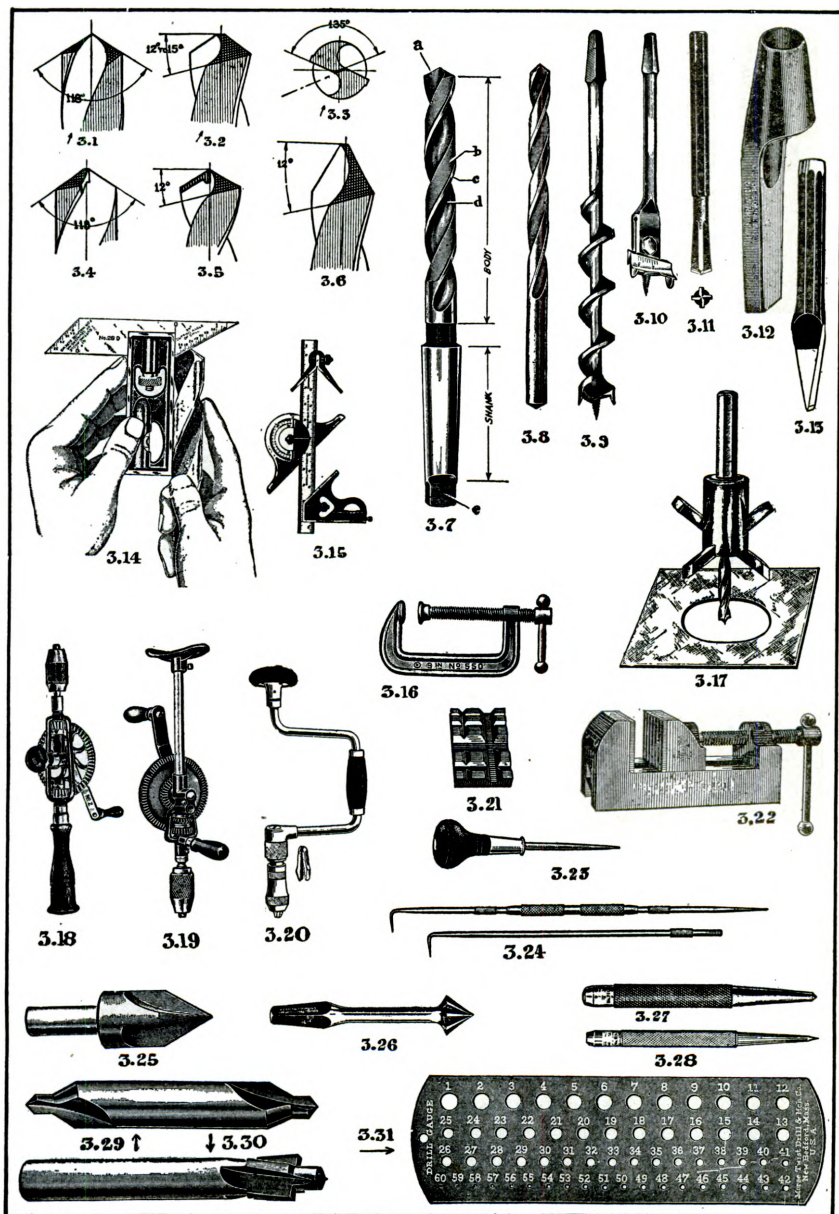

FIGURE 18.
The most generally used drill for boring small holes in metal is the straight-shank "twist drill" shown in 3.8, figure 18. Ordinarily these drills are made of a high-carbon steel of excellent quality, and are suitable for most all classes of work if used properly and never allowed to become heated. Drills made of a special alloy containing tungsten, chromium, and especially cobalt, are referred to as "high-speed" drills, which cost several times as much as ordinary carbon drills, but which may be operated at quite high temperatures and still retain their hardness. High-speed drills are preferred when large numbers of holes are to be drilled in bakelite or other plastics, especially when the drill must be driven by a small portable electric drill that operates at very high speed. This is because the plastics are very poor conductors of heat, and any heat produced while drilling will accumulate in the drill instead of being conducted off through the work. Monel metal, stainless steel, and other extremely tough materials produce so much heat when drilled that the use of high-speed drills is imperative.
3.31, figure 18, illustrates a gage for determining the gage numbers of wire twist drills, and is used by trying the *shank* end of the drill into various holes until one is found which just fits. The gage gives both the gage number and the diameter in decimal parts of an inch. Drill points should never be inserted into the holes of the gage as this will ruin both drill and gage.
The entire cone-shaped region at the cutting end of a drill is referred to as the point. The sharp edge at the extreme tip is called the "dead center," or just "center," and is the part that does the first cutting, thereby determining to a great extent how fast the drill will penetrate. The angle of the center is quite important, and should be about 118° , or 59° each side of the center line through the drill, as shown in 3.1, figure 18, for all general uses. For cutting very hard metals, like armor plate or forgings, the angle should be greater, say about 150° , and the drill subjected to more pressure. Similarly, a drill for soft metals, plastics, or wood, may have a very small angle (see 3.6, fig. 18) so that it will cut rapidly without requiring much pressure.
After the center of the drill penetrates, the cutting is done by the "lips" of the drill point (see "a," 3.7, fig. 18). The faces of the lips present an angle to the work which is determined by the amount of twist in the drill, or in the manner in which it is ground. Figure 18, illustrations 3.4 and 3.5, shows a special purpose drill sharpened especially for use in brass, and which has the lip faces ground so as to present a 90° angle with the metal being cut. Regardless of whether or not the leading edges of the lips have been altered by special grinding, the cutting edge must have relief, or "clearance," behind it in order that it can dig in and cut the metal. This "lip clearance" angle is practically always about 12° as can be seen in 3.2, 3.5, and 3.6, figure 18. This angle will also affect the angle that the center makes with the leading edge of the lips, which should be 135° as shown in 3.3, figure 18. The back edge of the point, that is, the noncutting part, is called the heel. Shortening the heel is what creates the lip clearance and alters the angle between the dead center and lips.
The body of a drill has a spiral groove or "flute" cut in each side as shown at "d" in 3.7, figure 18. In the straight-shank drill, the length of the body is considered as the length of the flutes. The flutes are cut quite deeply and remove all but a thin section of metal down the center of the drill, which is referred to as the "web," and determines the length of the cutting edge of the dead center, as shown in 3.3, figure 18. The raised leading edge of the body of the drill (see "c," 3.7, fig. 18) is the "margin," and is very accurately ground to size. The remainder of the surface of the body recedes from the margin to form the "body clearance" as can be seen at "b" in 3.7, figure 18, and as an end view in 3.3, figure 18.
Small drills for general use almost invariably have straight shanks as shown in 3.8, figure 18, the shank being exactly the same diameter as the "margin" of the body of the drill. Straight shanks are to be used only in drill chucks of the three-jaw type, which are made especially for this purpose, and are found on hand drills (see 3.18, fig. 18), portable electric drills, and most small drill presses. Every effort should be made to preserve the smoothly machined surface of drill shanks, and chucks must be tightened very carefully to prevent slippage which results in damaged shanks. Good quality electric drills and small drill presses nearly always use a three-jaw chuck which has a key for tightening, the most popular (and by far the best available) being known as the "Jacob's" chuck. Straight-shank drills will last indefinitely when used with such a chuck providing it is always tightened sufficiently to prevent the drill from being scored by slipping. Breast drills (see 3.19, fig. 18) sometimes have three-jaw chucks, but this is not the general rule. They usually have a two-jaw, so-called "universal" chuck which will instantly ruin a straight-shank drill, and is suitable only for drills having a square shank of some sort to prevent slipping.
The best possible method of driving twist drills larger than $\frac{1}{4}$ inch is by means of the "Morse taper" shank, shown at 3.7, figure 18. The tapered shank slips into a very accurately ground socket instead of the customary chuck, the taper holding the drill in exact alignment. The drill is prevented from slipping by a "tang" (see "e" at 3.7, fig. 18) which extends beyond the end of the taper. Drills with tapered shanks should *never* be used in a breast drill, bit brace, or any type of drive other than a Morse socket, and every effort should be made to keep both socket and taper smooth, clean, and free of particles of metal, etc. There are several sizes of Morse tapers to suit varying needs, and are designated by numbers. For example, drills from $\frac{1}{4}$ to $\frac{1}{2}$ inch
Both wire and jobber's twist drills are also available in several other types of shanks, although they are not standard in the Navy, and are not used ashore except for special purposes. Common types are "bit-stock" shanks like those furnished on a carpenter's auger bit (see 3.9, fig. 18) and are to be driven by a breast drill with the "universal" chuck, or a carpenter's bit brace (see 3.20, fig. 18). There is another series having straight shanks with a flat ground on one side so that they may be used in the two-jaw universal chuck, or in a common spindle using a set-screw to hold the drill from twisting.
The lip angle is practically always ground to 59° where drills are to be used for all general purposes, but the exact value of this angle is of minor importance. It is extremely important, however, that both lips have exactly the *same* angle, whatever that be, and that the lips are both of exactly the same length. This is to insure that both lips cut uniformly, and that all the work is not done by only one of the lips. Furthermore, if both lips are of exactly the same angle and length, the dead center will actually be in the center of the drill, thereby avoiding the drilling of oversized holes. 3.1, 3.2, and 3.3, figure 18, illustrate perfectly ground drill points for average work, and 3.14, figure 18, illustrates the use of a drill gage for checking the angle and length of lips while grinding. The drill will not cut unless sufficient lip clearance is provided (see 3.2, 3.5, and 3.6, fig. 18) to allow the cutting edge to cut into the metal, as otherwise the drill will slip over the work causing great friction resulting in burning the drill point. It is quite difficult to grind this clearance properly and still maintain the proper proportions of length and angle of the lips. A good check is to note that the angle between the point and the lips (see 3.3, fig. 18) will be 90° if there is no lip clearance, but this angle will increase to 135° when the lip clearance angle is increased to 12° .
Wheels for grinding drills should have a medium grit, preferably be of fairly large diameter, and must be dressed to run perfectly smooth and true. The drill should be grasped as near to the point as possible with the right hand, and by the end of the shank with the left hand, and should be held lightly against the wheel. Some prefer to grind drills on the side of the stone, and others on the face, although there is very little difference in the results except when the diameter of the wheel is less than about 8 inches it is easier to use the side of the wheel. Grinding should start with the cutting edge of one lip, at a 59° angle with the stone, and while twisting the drill slowly clockwise this angle should be decreased to about 50°, thus forming the lip clearance. Don't wait for the drill to become blue or your fingers to get burned with the heat before cooling the drill in water! The water should be provided first, and the drill should be rapidly agitated in the water every second or so while grinding. A drill can be burned very easily on the wheel before realizing it because the steel is such a poor conductor of heat that the point might easily be ruined before the remainder of the drill becomes too hot to handle. Each time the drill is cooled in water it should be inspected and compared with the drill grinding gage (3.14, fig. 18). In grinding drills of $\frac{1}{4}$ inch and smaller, the drill grinding gage is not of much value, the unaided eye
A "Wycor" hole cutter is shown in 3.17, figure 18, and is typical of several devices on the market for cutting large holes in thin metal, such as holes required for mounting meters in radio panels, etc. They may have either one or two blades, and are variously known as "panel cutters," "washer cutters," and sometimes as a "sweep." They have a "pilot drill" which enters first and serves as a pivot for the sweep. They must be run at very low speeds, and are extremely difficult to use except in a drill press. Another similar device is a cup-shaped saw arrangement also having a pilot drill in the center. These "hole saws," as they are called, are somewhat better for thin metal than the sweep. In very thin metal, and for substances like rubber, fibre, gasket material, canvas, etc., the hollow punch (see 3.12, figure 18) may be used. The material to be punched is best placed on a wooden block which is made so that the grain in the wood will be vertical, the force of the punch then being taken up by the end-grain of the wood. If the hole is quite large, or of irregular shape, it is best cut out by means of a cold-chisel of the "cape" pattern as shown at 3.13, figure 18.
Figure 18, 3.25, illustrates a countersink for reaming the cone-shaped recess to accommodate the heads of flat-head screws. This particular pattern is made especially for cutting metal, and may be used in a hand drill or drill press, although it must be turned quite slowly to avoid burning. When selecting a countersink it is very important to note that the angle must be 82° for flat or oval head screws, and if the angle is other than this it cannot be used as a countersink. When the device illustrated at 3.25, figure 18, is supplied with an angle of 60° it is correctly referred to as a "center reamer," and is used only to ream center-holes in objects that are to be turned between centers on a lathe. A combined center-drill and countersink (or center-reamer) is shown at 3.29, figure 18, and is for simultaneously drilling and reaming a center-hole as described above for use in a lathe, and cannot normally be used as a countersink for screws because it has an angle of 60° instead of 82° . A "rose" countersink (82°) with a "bit-stock" shank, is shown at 3.26, figure 18. The bit-stock shank is to fit a carpenter's brace or a breast drill with a universal chuck and, although the rose countersink is intended primarily for use in wood, it may be used with caution in soft metal. When socket-head cap screws or screws with fillister heads are to be countersunk, it is necessary to make a cylindrical-shaped recess with a
flat bottom. This is done by means of a "counterbore" (see 3.30, figure 18) having a small "pilot" which precedes the cutting edges and guides them concentrically with the previously drilled body clearance hole.
For drilling holes in stone or cement, bricks, tile, etc., a "star" drill (so named because of its shape) is used. This type of drill (see 3.11, fig. 18) is driven by means of a heavy hammer, and must be continually rotated while being driven. Larger holes in soft brick or cement may often be drilled more rapidly with a section of pipe of the proper diameter and which has saw teeth cut in the drilling end. It is used like a star drill. Holes may be drilled in wood with ordinary twist drills, which will do a pretty good job in hardwood if the drill is run at a very high speed. A better drill for use in wood, however, is the "auger-bit" shown at 3.9, figure 18, which is made especially for boring holes in wood. Auger bits have "bit-stock" shanks which are made especially for use in a carpenter's "bit-brace" (see 3.20, fig. 18) or a breast drill having the "universal" type of two-jaw chuck. Auger bits which may be adjusted to cut different diameters of holes are called "expansion" bits, and are constructed along the same general lines as the sweep, as shown in 3.10, figure 18.
Accurately located holes require first that the exact location of the holes be properly marked and then punched as an aid in starting the drill. The engineer's "combination square" (see 3.15, fig. 18) is of great help in accurately laying out the work prior to punching. Such a square consists of the "handle" and the "blade," the one illustrated being also equipped with a "protractor head" and a "center head," and as such, is known as a "combination set." The protractor head is adjustable as to position on the blade (as are the other attachments) as well as to angles with the blade. The center head facilitates the marking of the exact centers of the ends of shafts and other round objects. Rough work on sheet metal is usually marked with a "scratch awl" (see 3.23, fig. 18), but accurate marking is best done with a very sharply pointed "scriber" as shown in 3.24, figure 18. Good combination squares usually have a small scriber that is kept in the handle when not in use. When scribing lines on accurate work, care must be taken to avoid *parallax* error due to the thickness of the rule or blade of the combination square. This is easily avoided by always setting the scale up on its edge where the graduations are actually in contact with the face of the work, rather than being separated from the work by an amount
After the center of the location of the hole is accurately marked by two intersecting lines, the point of intersection is first marked by means of a "prick" punch, and then it is center-punched. The prick punch (see 3.28, fig. 18) is small and has a very sharp and accurately ground point. It should be held close to its point, placed carefully into position, and given a light tap with a machinist's hammer. If, after inspection, the punch mark is not exactly in the desired place, it can be moved somewhat by inclining the punch at an angle and giving it another light tap. This should be done cautiously and the work should be inspected after each light blow. When the location is considered satisfactory, it should then be center-punched. The center punch (see 3.27, fig. 18) is similar to the prick punch except that it is made much heavier, and has a larger and more blunt point which is comparable to the 59° point of a standard twist drill. It is held and used in the same manner as the prick punch, but it takes a much heavier blow to drive it into the work. Center punches should always be kept ground to a perfect cone-shaped point of approximately 59° angle. When the requirements of location are not too exact, and if the center punch is carefully sharpened, it is not necessary to use the prick punch previous to center punching. Similarly, when very small diameter drills are to be used, the center made by the prick punch is usually sufficient, and the use of the center punch is then neither necessary nor desirable.
When drilling large holes in thick metal, greater accuracy of hole location and better drilling performance will result when a pilot hole has previously been drilled. The drill used for the pilot hole should be about the same diameter as the thickness of the web of the large drill, which is normally about 12 to 18 percent of the diameter of the drill. Holes larger than about $\frac{1}{4}$ inch cannot be drilled in sheet metal, as the point of the drill breaks through the other side before the margin can guide the drill point. This results in egg-shaped holes which are never in the right place, plus very serious gouging, which tears the metal and very often jams the drill. If the work is very securely fastened in place, jamming of the drill will either stall the machine or break the drill. If the work is not bolted in place, however, the work will whirl around with the drill, and can deal very serious cuts to the operator. *Never* attempt to drill sheet metal with a drill so large that the point can cut through the metal before the margins have started cutting, unless the work is very securely fastened to the bed of the drill press with bolts or C clamps (see 3.16, fig. 18). Even this procedure does not prevent the holes from creeping off center, or being out of round and oversized. The only way to drill holes in light stock satisfactorily is to clamp the piece rigidly between two thick sections of metal, and drill the hole through all three. The work must be held rigidly in the drill press, or in a vise.
and the work large enough that there will be no difficulty in holding the work against the torque of the drill. To avoid cutting the fingers, small pieces should be clamped in a vise when drilling with a portable electric hand drill. When using the drill press, small pieces are most conveniently held in a drill-press vise (see 3.22, fig. 18). An accessory jaw face, shown in 3.21, figure 18, can be inserted between the work and one of the jaws of the vise to facilitate holding round or irregular shapes. When drilling holes up to about $\frac{5}{16}$ inch in diameter (except when the metal is thin) the drill-press vise can be held down by hand, but when drilling larger holes the vise must be bolted to the bed of the drill press, or held in place by means of C clamps. The work should be oriented so that the drill point runs exactly over the punch mark in the work, and the drill must never be allowed to get out of alignment while drilling. Drills will invariably be broken if there is the slightest bending due to misalignment between the axis of the hole being drilled and the axis of the drill.